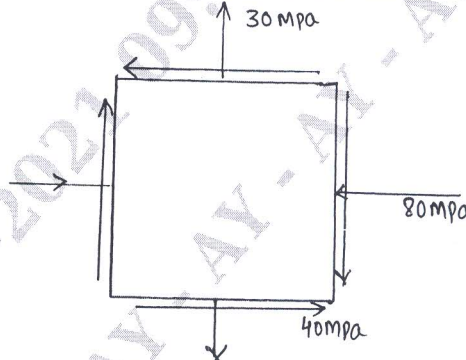

Fig.Q3(b)
- A point in a strained material is subjected to the stresses as shown in Fig.Q3(b). Locate the principal stresses. Also determine the maximum shear stress. Use analytical approach.